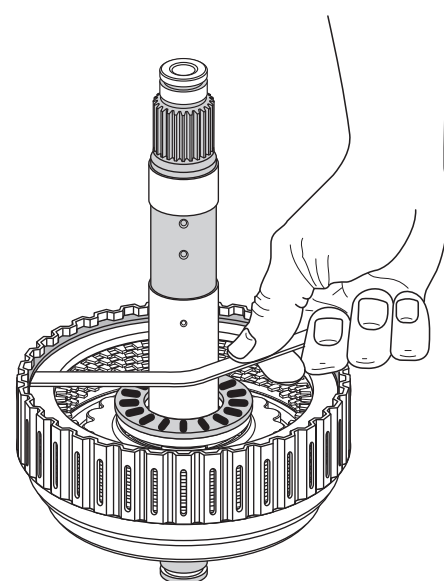

Figure 96
17. Measure the K2 clutch clearance with a feeler gauge between the backing plate and snap ring, as shown in Figure 96.
18. K2 clutch clearance should be approximately .010" per friction plate installed, as shown in Figure 96.